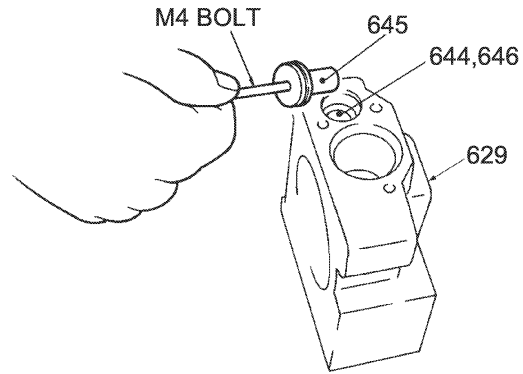

Fig. 33-114 Removing compensating parts
(See Fig. 33-111 (D) section, See Fig. 33-113, Fig. 33-114)